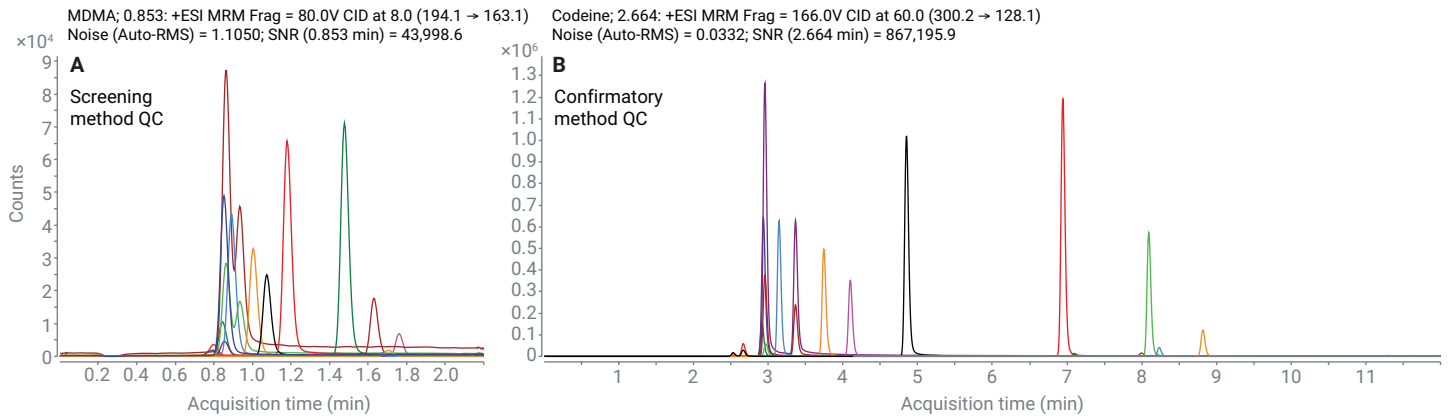

Figure 3. Representative chromatograms of QC injections containing all compounds of interest.
The chromatograms in Figure 3 are quality control (QC) injections for the screening and confirmatory methods for all analytes of interest. Each analyte can be detected acceptably, but with greater sensitivity, selectivity, and specificity in the confirmatory method.